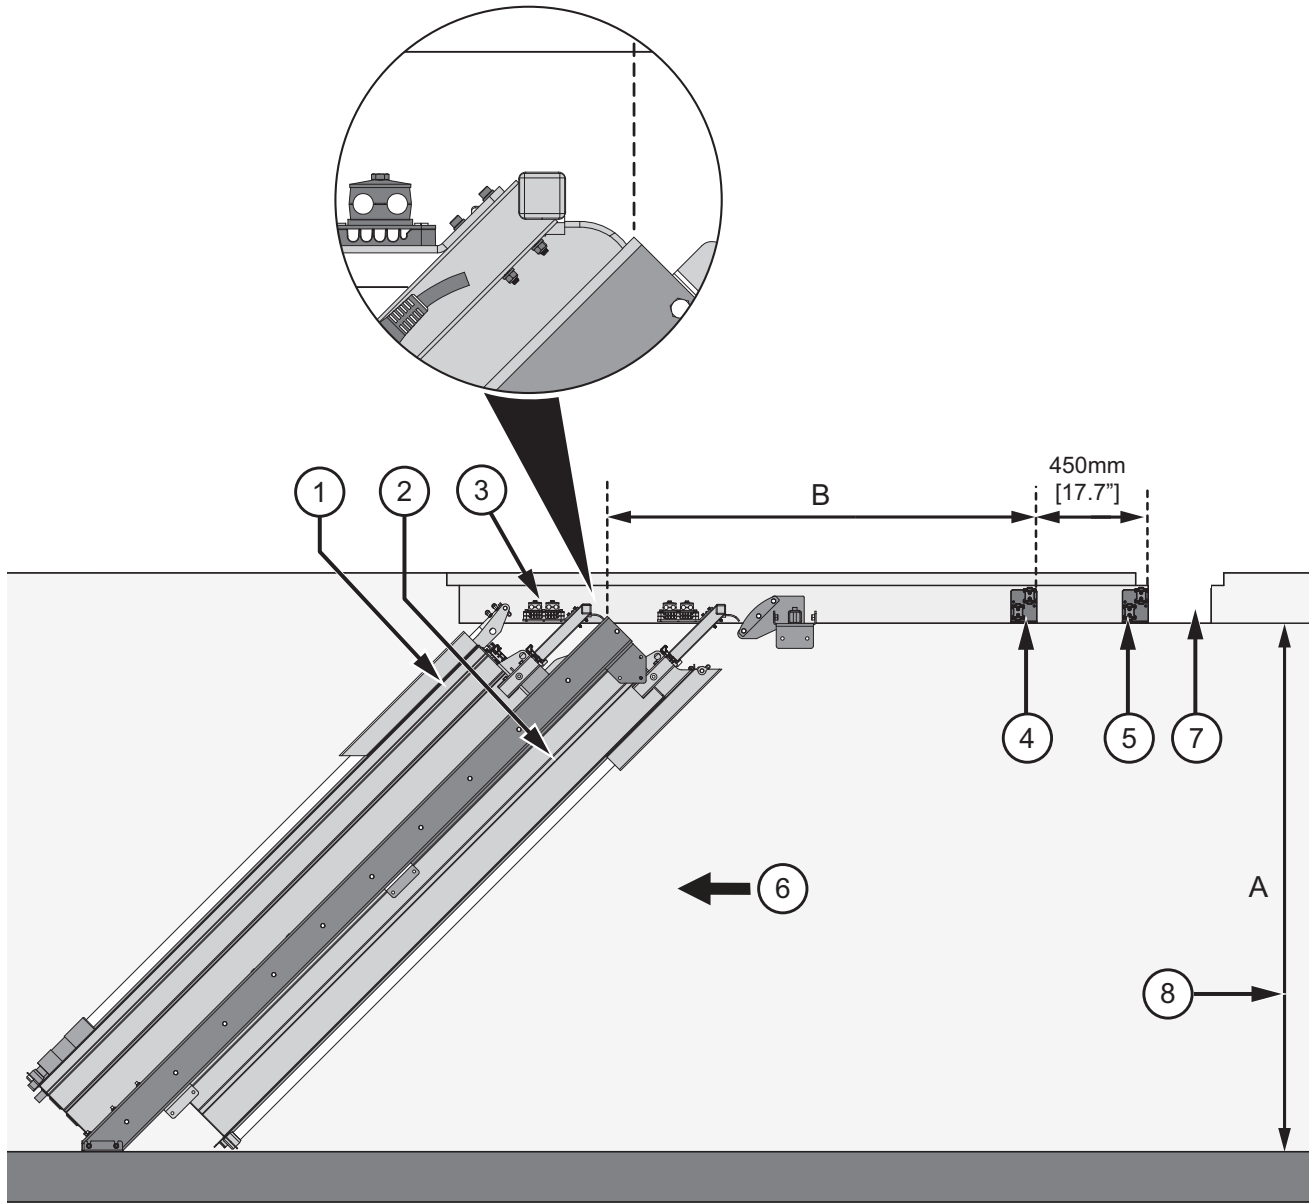

Figure 17 Section View
- For Standard Channel Bracket Assemblies – refer to Figure 17 and Figure 19.